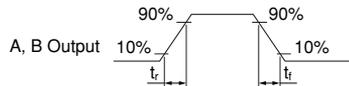

Fig.2 Forward Current vs. Ambient Temperature
*1 The derating factors of absolute maximum ratings due to ambient temperature are shown in Fig.2 to 3